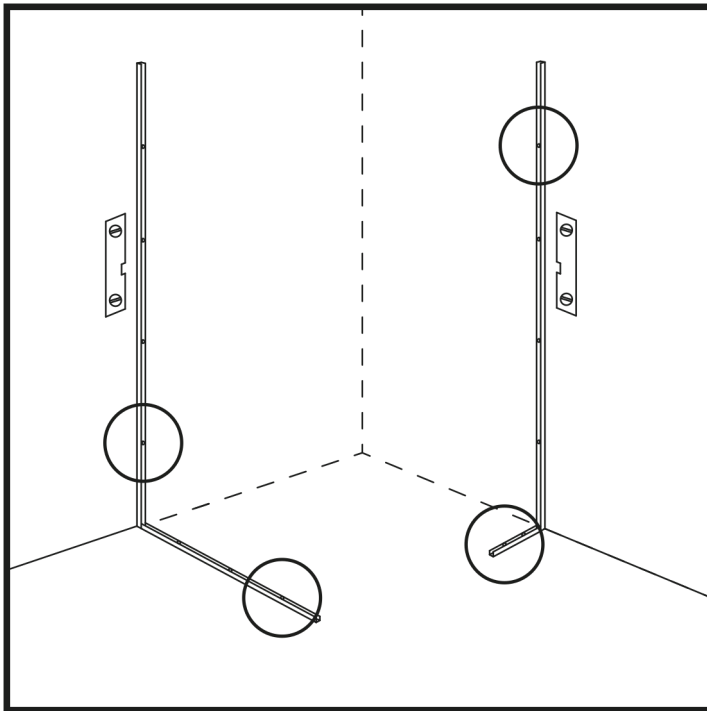

Figure 3
6. Place the longer U-profile vertically on the wall using a level so that the edge of the U-profile is flush with the marked dot and the end of the slat is against the floor. (Figure 3)